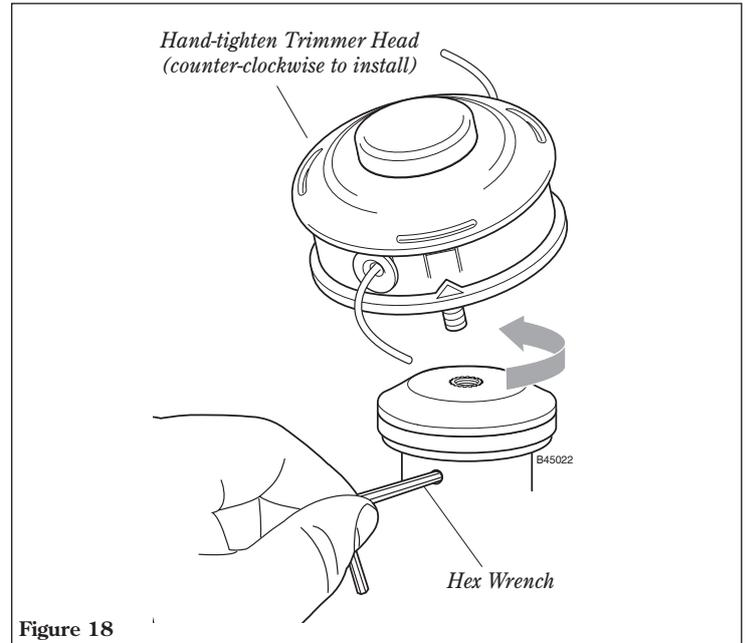

Figure 18
4. Using the hex wrench to secure Holder A, install and hand-tighten the trimmer head (counter-clockwise to install). See Figure 18.